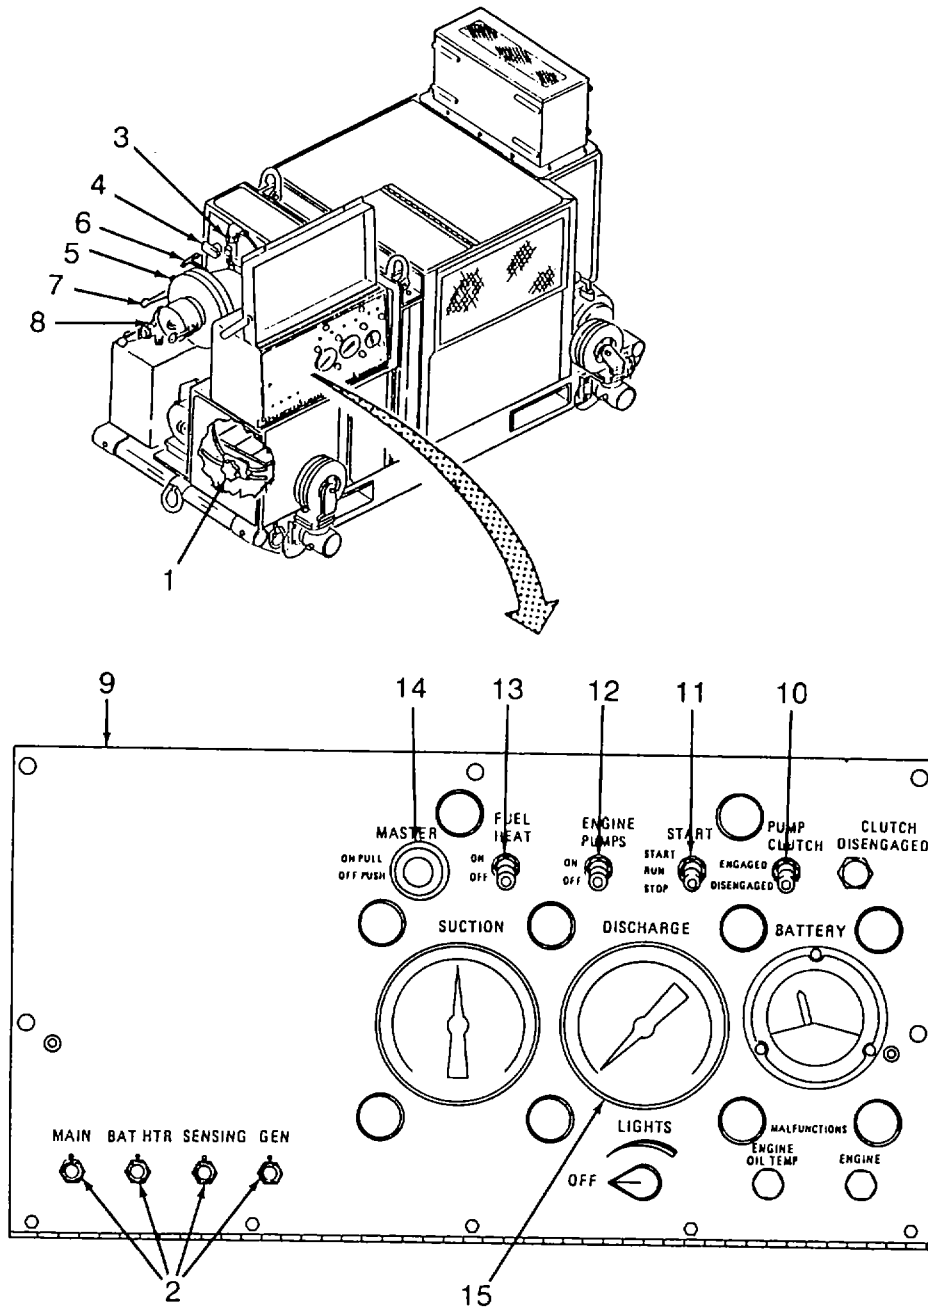

Figure 2-8. 200/600 GPM Pump Starting, Operating and Shutdown Procedures
- a. Starting. Refer to Figure 2-8.
- b. Operate. Refer to Figure 2-8.
- (1) Set PUMP CLUTCH switch (10) to engaged.
- (2) When DISCHARGE pressure gage (15) reads 20 psi, turn PRIMING SHUT OFF VALVE (1) handle to off.
- (3) FUEL SELECTOR VALVE (4) turn handle to internal.
- (4) On priming vent drain tank handle (8), set handle to open (horizontal position) for one minute then close (vertical position).
- c. Shutdown. Refer to Figure 2-8.
- (1) On the control panel (9) set PUMP CLUTCH switch (10) to disengaged.
- (2) START switch (11) set to stop.